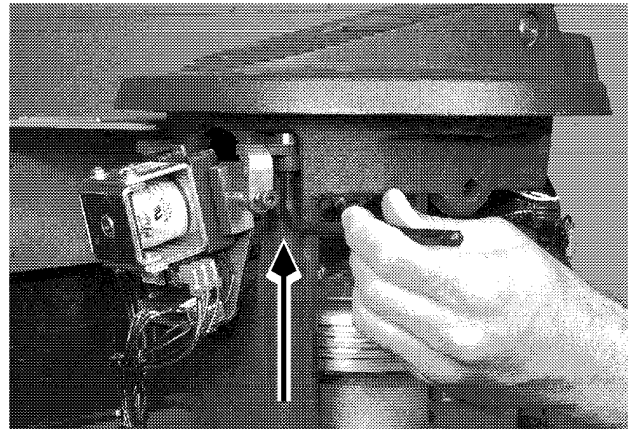

Figure 6-18: Socket Head Cap Screws
2. Remove the two socket head cap screws holding the solenoid mechanism to the handle mounting. See Figure 6-18.